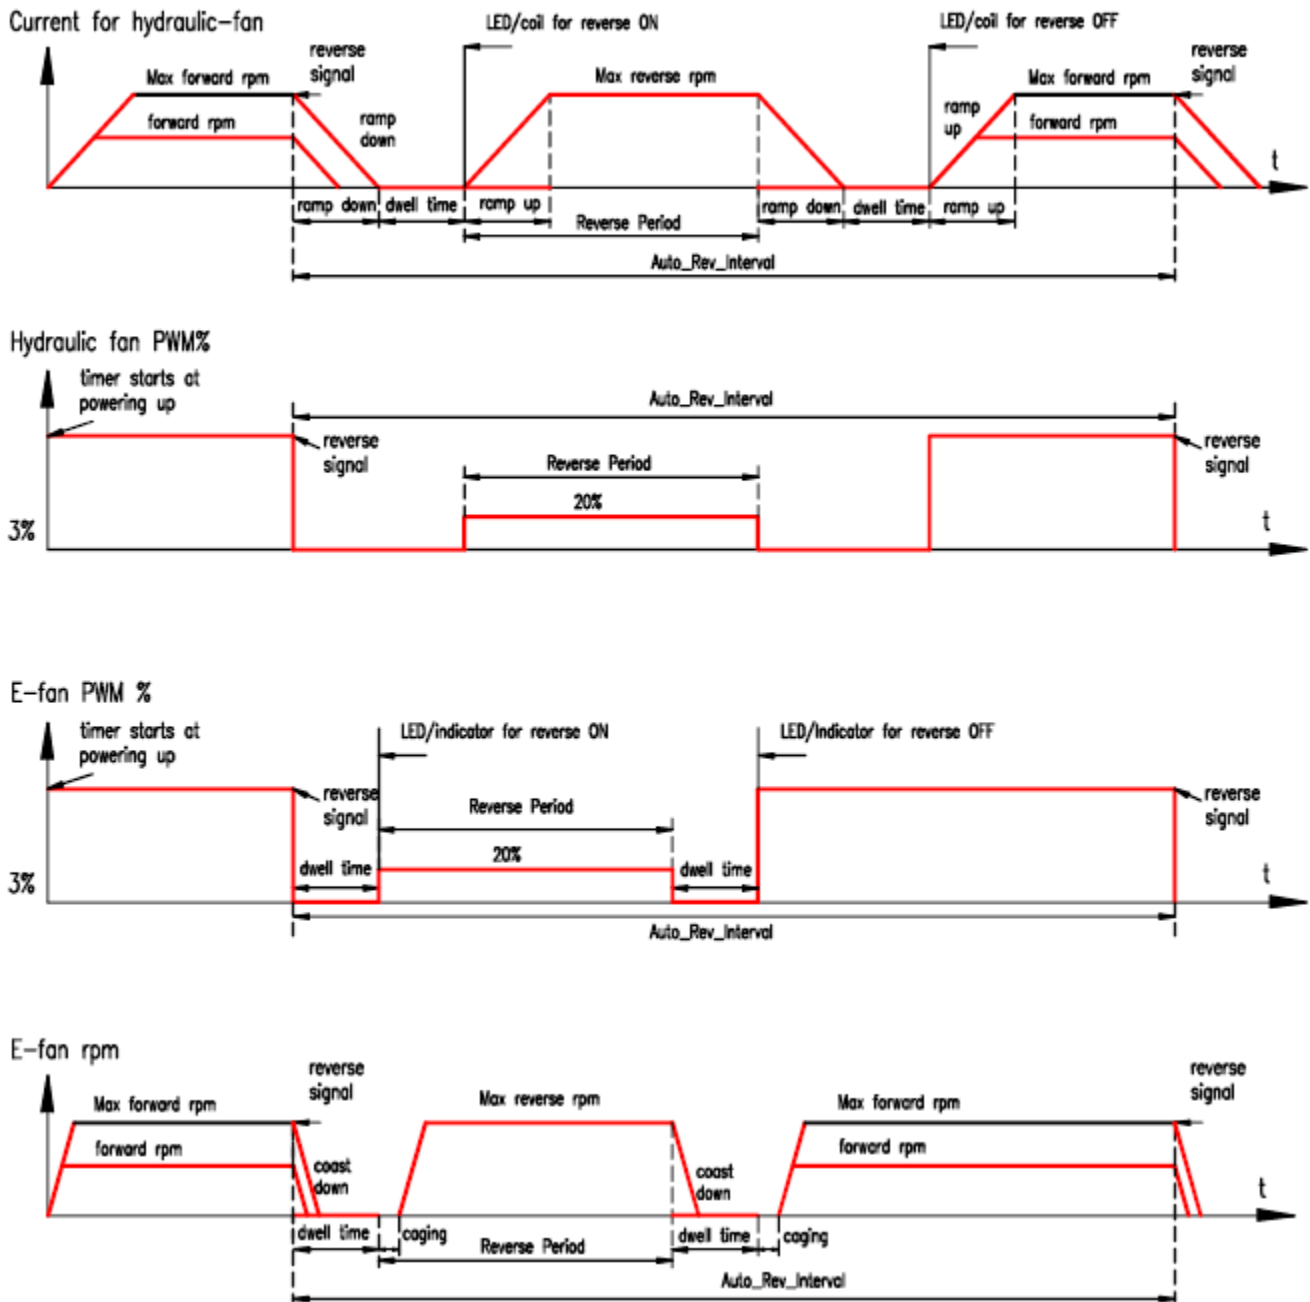

Figure 23
- **Auto Reverse Interval** (minutes) – see the EMC reverse cycle definition, see Figure 23. It is the time between reverse cycles.
- **Reverse Period** (seconds) – see the EMC reverse cycle definition, see Figure 23. It is the total time to ramp up in reverse direction, run in reverse, then ramp down time. Ramp up and down time are equal to the dwell time.
- **Direction Change Dwell (Seconds)** – see the EMC reverse cycle definition, see Figure 23. The dwell time is the time it takes to ramp down and go into reverse mode. It also is the time it takes to ramp down from reverse mode before driving the fans normally.